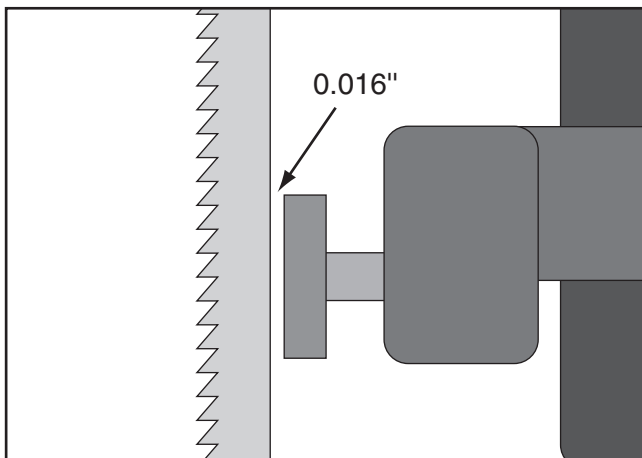

Figure 24. Blade should be aligned approximately 0.016" away from the bearing edge.
7. Use knurled knob to position support bearing approximately 0.016" away from back of blade, as shown in **Figure 24**. Measure this with a feeler gauge or a dollar bill folded twice.